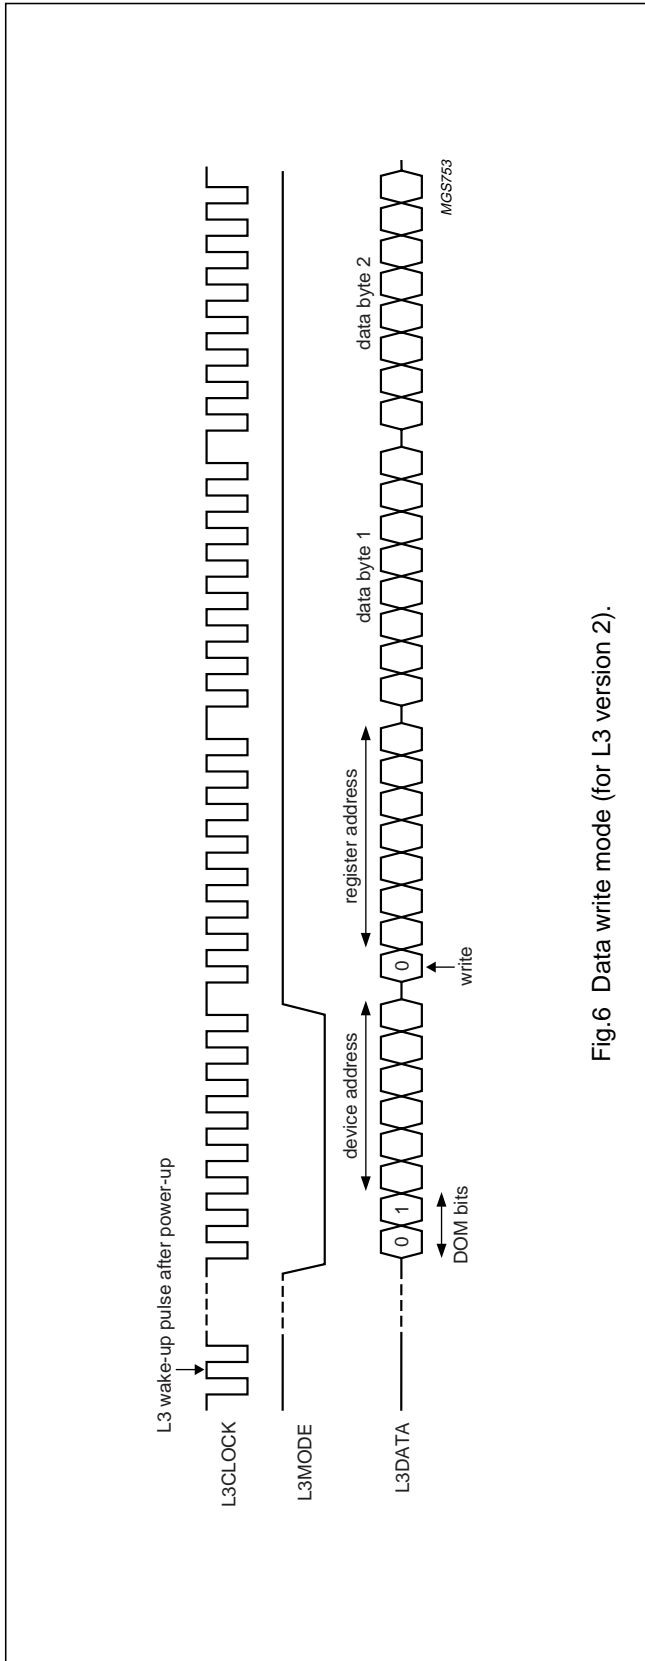

Fig.6 Data write mode (for L3 version 2).
The address mode is used to select a device for a subsequent data transfer. The address mode is characterized by L3MODE being LOW and a burst of 8 pulses on L3CLOCK, accompanied by eight bits (see Fig.6). The data transfer mode is characterized by L3MODE being HIGH and is used to transfer one or more bytes representing a register address, instruction or data.
Remark: when the device is powered up, at least one L3CLOCK pulse must be given to the L3 interface to wake up the interface before starting sending to the device, see Fig.6. This is only needed once after the device is powered up.
1. Addressing for write data: bit 0 is logic 0 indicating a write action to the destination register, followed by bits 1 to 7 indicating the register address (see Fig.6)
The data write mode is explained in the signal diagram of Fig.6. For writing data to a device, four bytes must be sent (see Table 6):